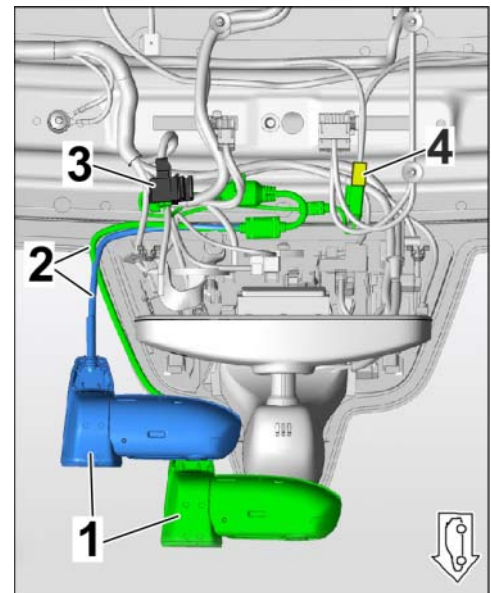

Figure 10 (9YA)
– Line routing - **Base (9YA)**: ⇒ *Figure 10 (9YA)*
- Blue** – Camera position for Germany (D)